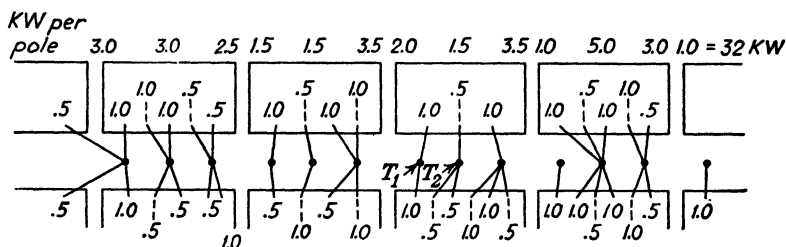

FIG. 5-23. Sketch of typical section of residential district to be served by one transformer. Sketch shows poles, services, and kilowatt demand on each service.
**Selecting Distribution Transformer Location.** To determine both the size and the location of a transformer, it is best to draw a sketch of the section of line to be fed from the transformer. The sketch should show the location of each pole, the number of services to be fed from each pole, and the kilowatt demand on each service. A typical sketch is shown in Fig. 5-23. The kilowatt demand on each service is fixed by the size of the house, etc., as was explained above. The total load to be supplied by this transformer is 32 kw. Hence a 37.5-kw transformer should be installed because it is the next largest standard size.